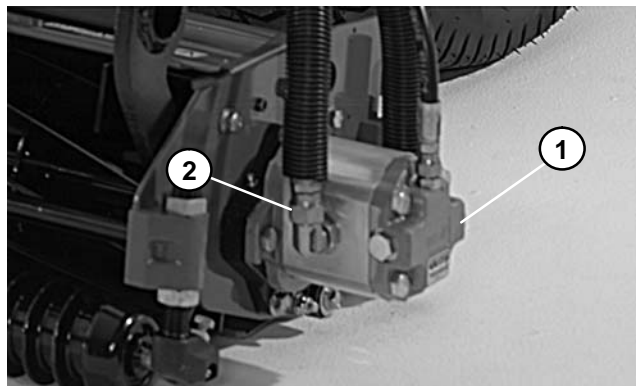

Figure 17
4. Disconnect pressure hose from front hydraulic fitting on reel motor (Fig. 17):